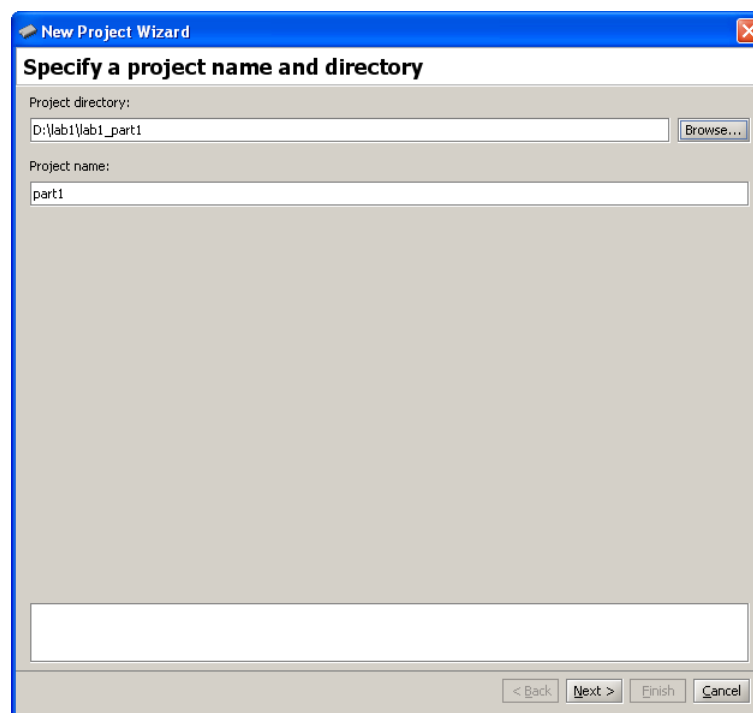
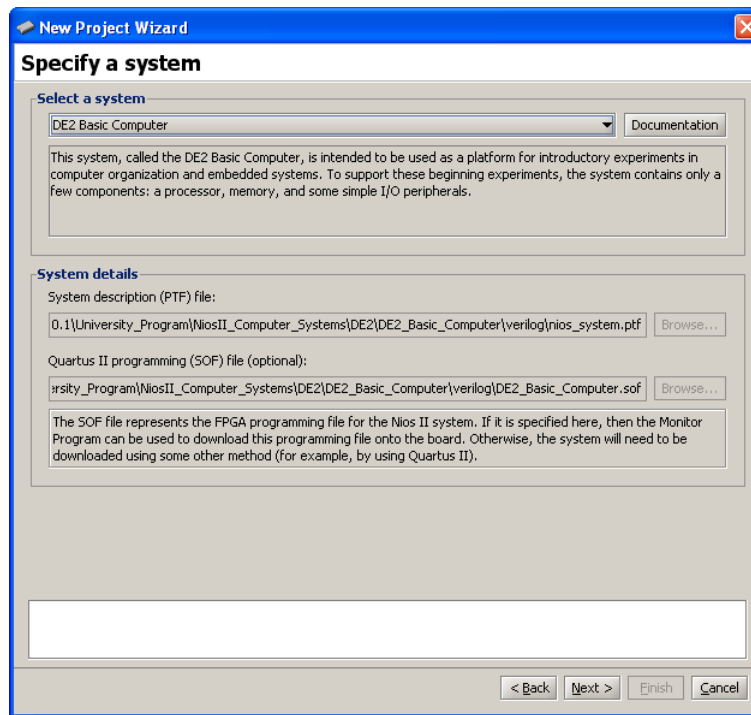
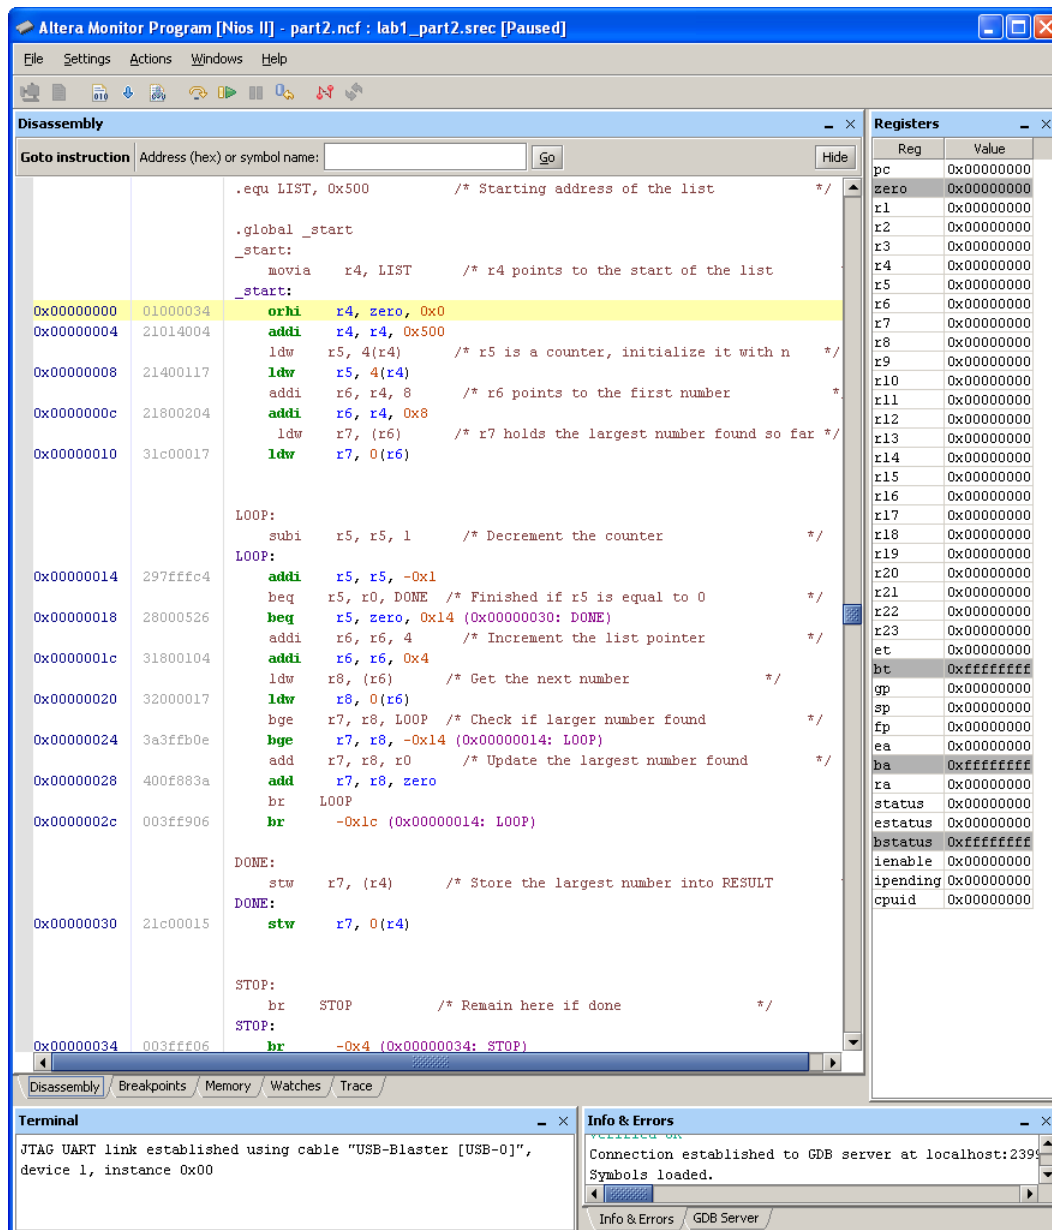

Figure 2: Specify the directory and the name of the project.
Figure 3: Specification of the system.
Figure 13: The disassembled view of the program in Figure 10.
To run an application program it is necessary to create a new project. Select **File > New Project** to reach the window in Figure 2. Give the project a name and indicate the directory for the project; we have chosen the project name *part1* in the directory *lab1_part1*, as indicated in the figure. Click **Next**, to get the window in Figure 3.
5. The Monitor Program will display the disassembled view of the code loaded in the memory, as indicated in Figure 13. Note that the pseudoinstruction **movia** in the original program has been replaced with two machine instructions, **orhi** and **addi**, which load the 32-bit address LIST into register *r4* in two 16-bit parts (because an immediate operand value is restricted to 16 bits). Examine the disassembled code to see the difference in comparison with the original source program. Make sure that you understand the meaning of each instruction. Observe also that your program was loaded into memory locations with the starting address zero. These addresses correspond to the SDRAM memory, which was selected when specifying the system parameters. See the document *Basic Computer System for Altera's DE-series Board* for full information. This document can be accessed by clicking on the Documentation button in Figure 3.
6. Run the program. When the program is running, you will not be able to see any changes (such as the contents of registers or memory locations) in the monitor windows, because the monitor program cannot communicate with the processor system on the DE-series board. But, if you stop the program the present state of these components will be displayed. Do so and observe that the program has stopped executing at the last Branch instruction which is loaded in the memory location 0x34. Note that the largest number found in the sample list is 8 as indicated by the contents of register *r7*. This value is also stored in the memory location 0x500, which can be seen by opening the Memory tab of the monitor window (in Figure 13).